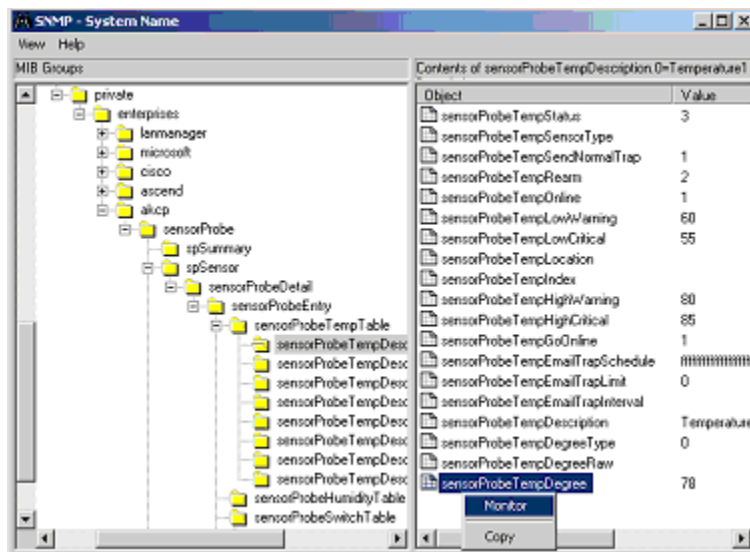

Figure 5 SNMPbrowser
- 1.1. From SNMP browser, right-click a desired SNMP variable to be monitored on the right pane of the browser as show in Figure 5.